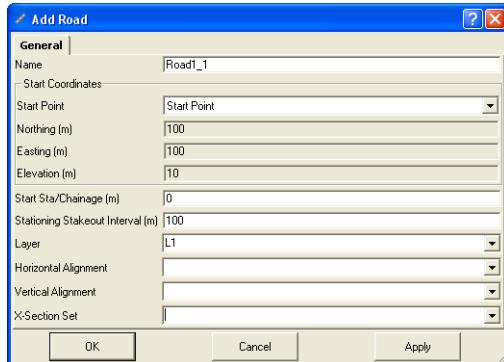

Figure 9-25. Add Road Dialog Box
- In the *General* tab of the **Add Road** dialog box, enter the following information (Figure 9-25):